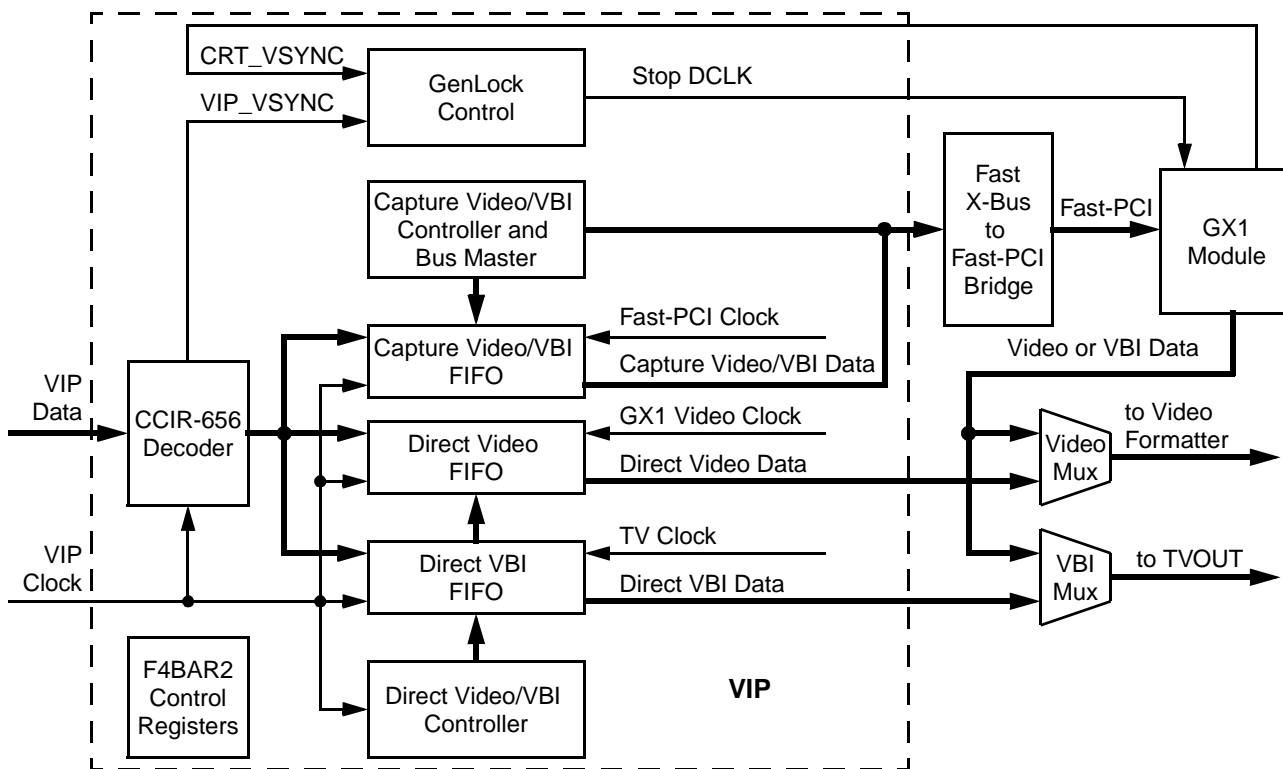

Figure 6-4. VIP Block Diagram
The VIP block is designed to interface the SC1200/SC1201 with external video processors (e.g., Geode CS1300 or Sigma Designs EM8400) or external TV decoders (e.g., Philips SAA7114). It inputs CCIR-656 Video and VBI data sourced by those devices, decodes the data, and delivers the data directly to the Video Formatter (Direct Video/VBI modes) or to the GX1 module's Video Frame Buffer (Capture Video/VBI modes). Figure 6-4 shows a diagram of the VIP block.
2) The altered VBI data can be sent to the TVOUT block of the Video Processor via the video frame buffer. See VIP block diagram (Figure 6-4 on page 323). The Closed Captioning data could be altered and then sent out this way. One reason to capture the Closed Captioning data would be to do a language conversion. If the VIP block is in Capture Video mode then this option is not possible because the video frame buffer can be used for sending video or VBI, but not simultaneously.